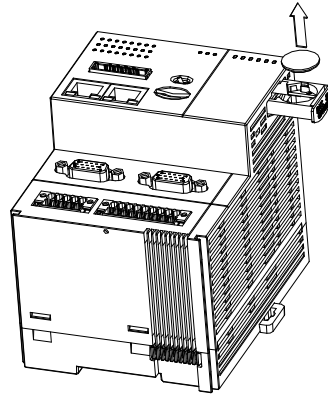

Figure 5.1.5.5
3. After the battery is removed, put in a new one and push the battery holder back into the motion controller as shown in figure 5.1.5.6.